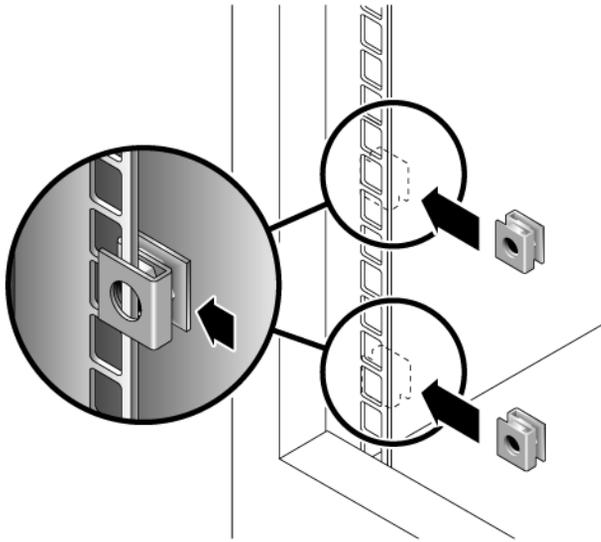

FIGURE 2-11 Inserting Cage Nuts Over Rail Mounting Holes in Cabinet Rails
1. Snap two cage nuts over the middle holes in the upper and lower mounting units of the 3RU cabinet slot in which you will mount the tray (FIGURE 2-11).